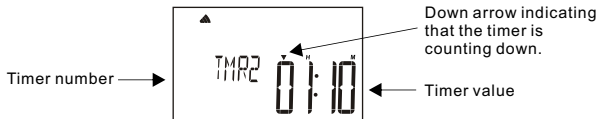

Fig.5 – An example of timer 2
- **Run the timer:** To confirm and run the timer, press START/STOP button. A down arrow (Fig.5) will show on screen indicating that the timer is counting down (for count-up timer, an up arrow shows on screen
- **Alarm in timer:** The thermometer (i.e. transmitter and receiver) will alarm, the backlight will be on (alarm and flashing for 30 seconds) and the timer will start to count up (the down arrow in Fig.5 will change to an up arrow instead) once the timer has completed. Note: The thermometer will keep alarming (5 seconds) and the backlight will keep flashing (5 seconds) every minute.